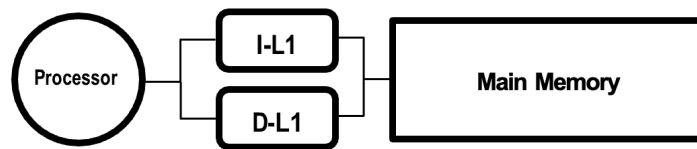

Figure 2: Architecture of the base system
In this assignment, you will study a very simple system presented in Figure 2. Usually, there are two or three levels of cache between the processor and the main memory. One reason is that bigger caches come with longer access time and each level tries to hide the access time of the next level.
Here MPI and MP stand for number of Misses Per Instruction and Miss Penalty in cycles, respectively. This is a simple model that applies to the system in Figure 2. The miss penalty component in (2) corresponds to the extra waiting time when accessed data or an instruction is not found in the data and instruction cache, respectively, and the processor needs to bring it from main memory. If we remove this component from CPI, what remains (we call it CPI_0) is the number of cycles per instruction related to processor operations and even if we had a perfect cache with no misses, it would not be affected.